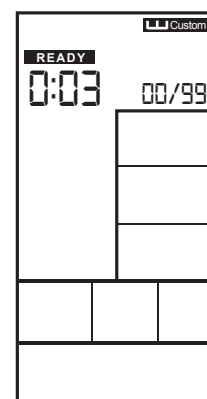

Figure 35
- 4 Cycle time counts down from 3 to 0 then console start, meanwhile buzzer beeps once per second and READY flashes once per second, counting displays '00/XX'(Figure 35).